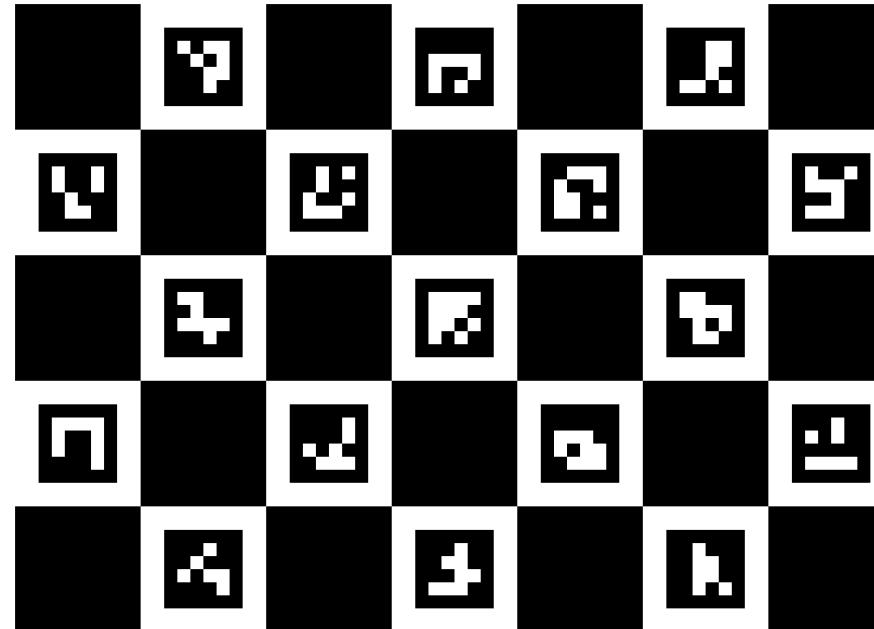

Figure 5: ChArUco board for camera calibration.
- Print the marker board in Fig. 5 on a snow-white DIN-A4 paper. Use high-quality printer settings.